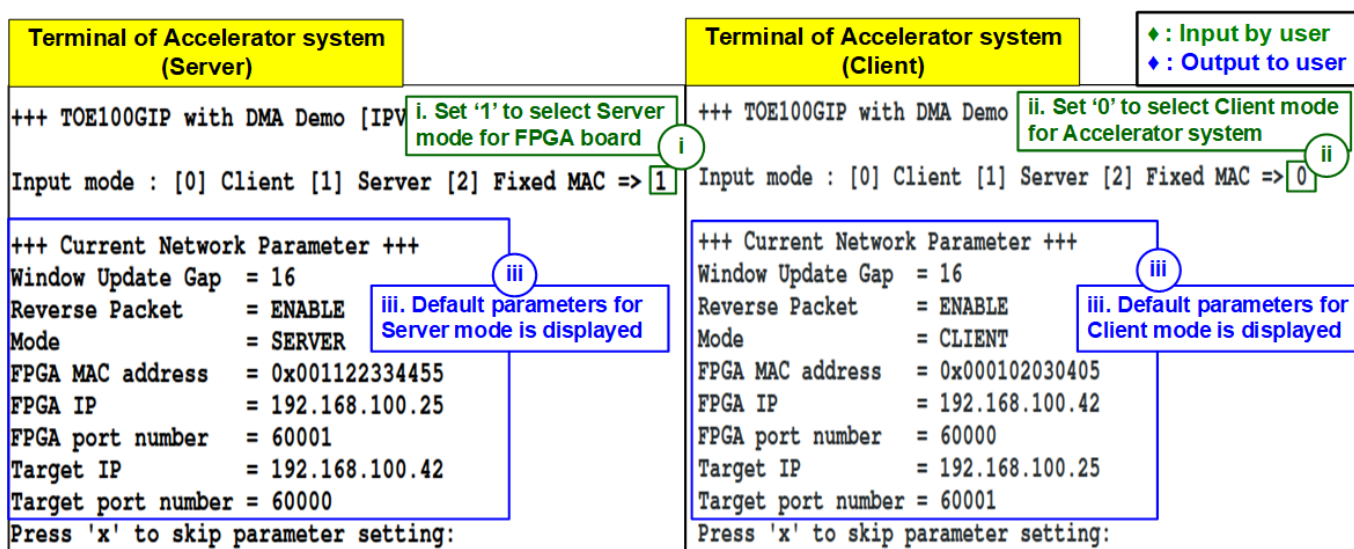

Figure 4-2 Input mode for system initialization
- iii) Default parameters for Server or Client are displayed, as shown in Figure 4-2.